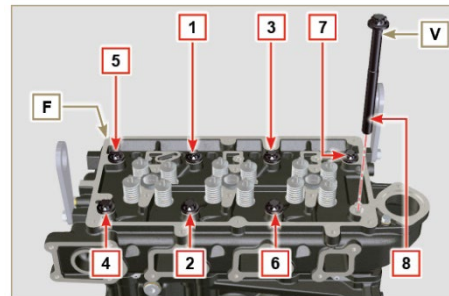

Fig 9.49
- For engine **KDI 1903 M**: 8 screws **Torx M12x1,25** (**Fig. 9.49**).